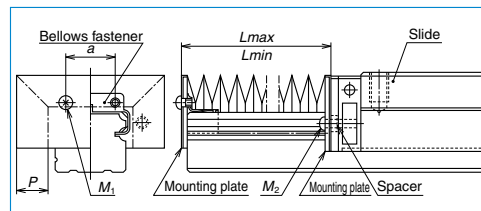

Fig. 7.7
* Fixing to the ball slide (Fig. 7.7)
- Remove two machine screws (M_2) which secure the end seals to the end of the slide (**Fig. 7.7**). For NS15, hold the end cap by hand. Otherwise, the end cap is detached from the ball slide, and the balls inside may spill out.
(5) Bellows
- To install bellows for NH and NS Series, lightly knock a fastener exclusively for bellows to the end of the rail (**Fig. 7.7**). Then secure the mounting plate to the end of the bellows through the tap hole of the fastener.